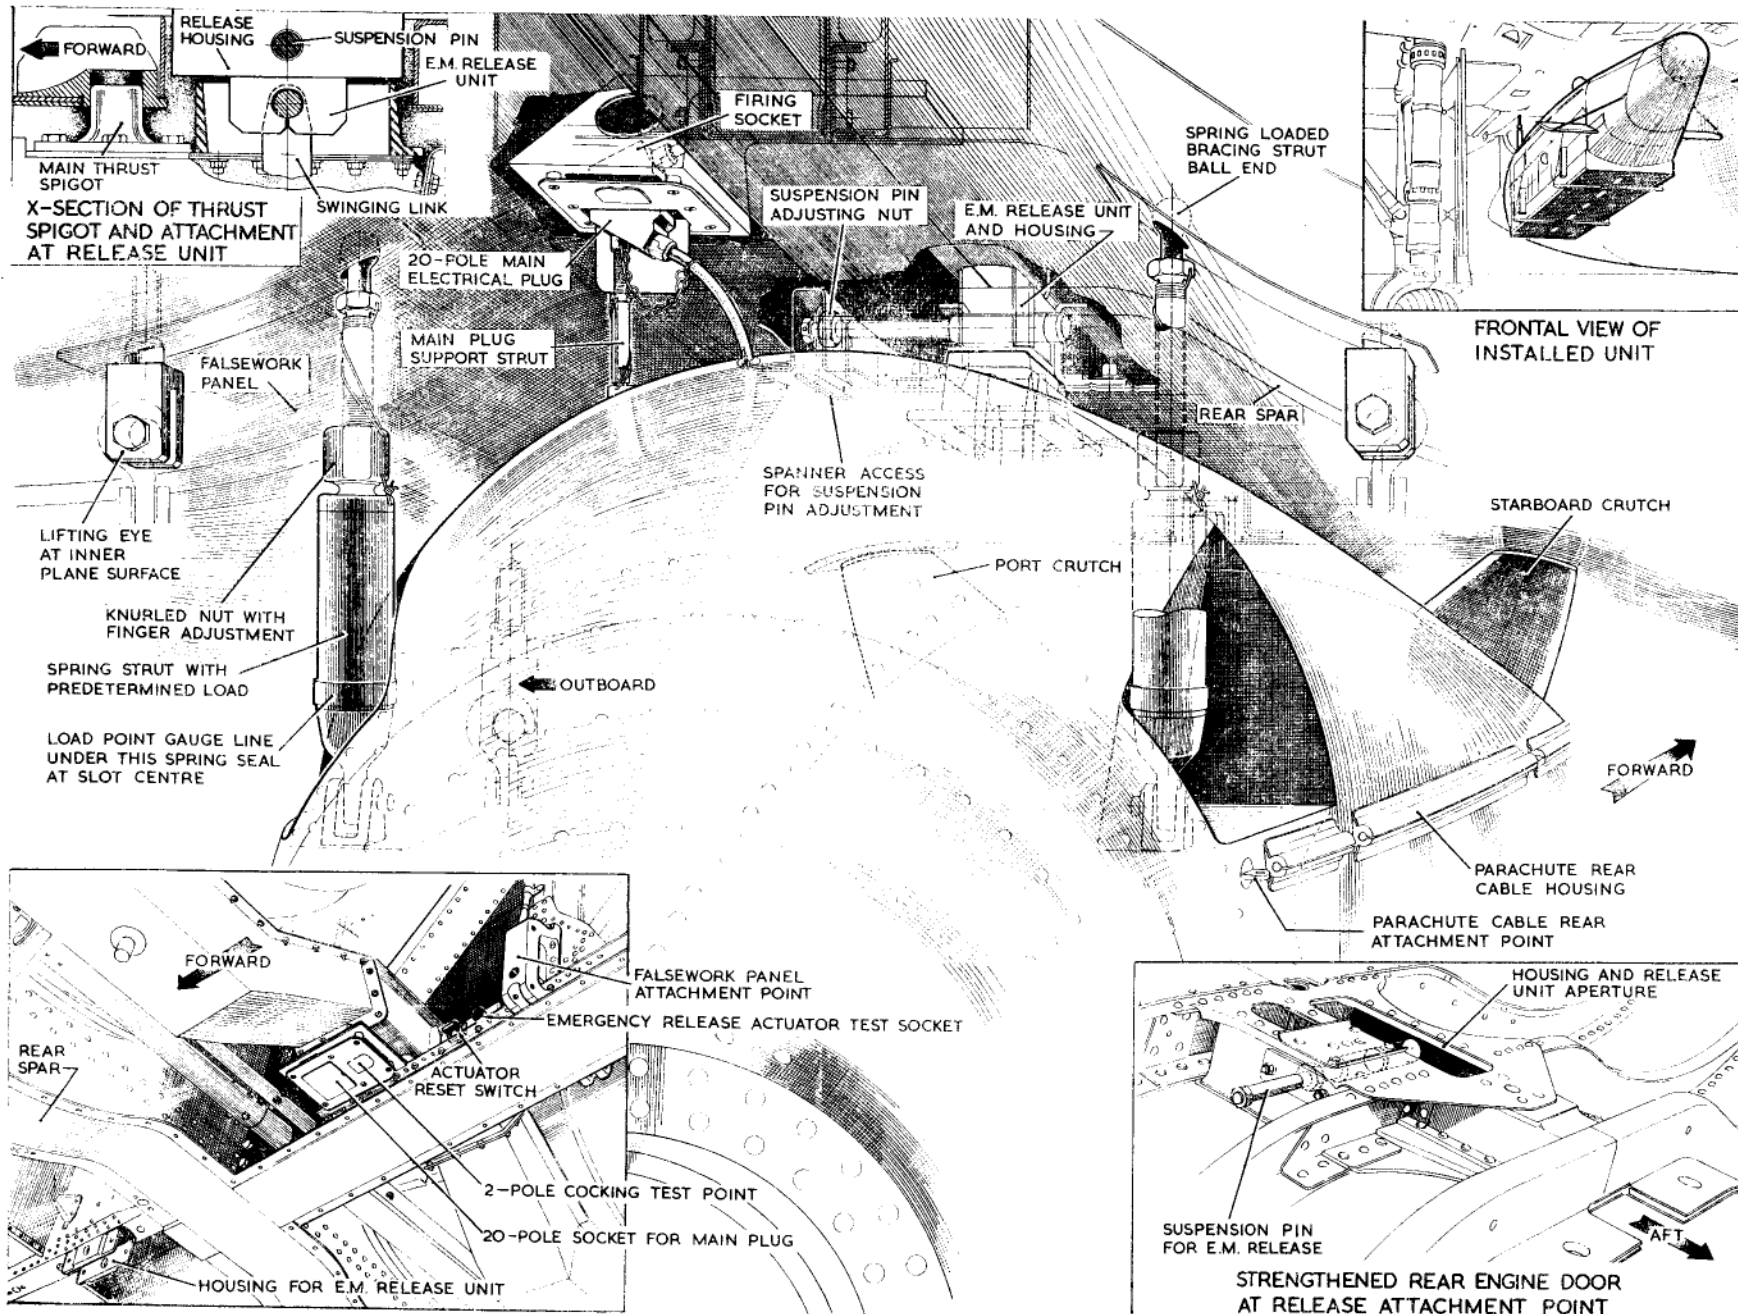

Fig. 4. Unit installation detail (port)
- (1) Ensure that the aircraft is standing on level ground, and that the rear engine door and removable falsework under-panel are fitted securely.
- (2) Remove the slip cover plate.
- (3) Screw the four lifting eyes, Ref. No. 26SR/95428, into the threaded sockets in the inner-plane undersurface (*fig. 4*).
- (4) Move the unit on its transporter into position under the inner plane, with stabilizer fins forward and the unit swinging link directly under the E.M. release unit. Chock the transporter trolley.
- (5) Check that the slip is uncocked, i.e., jaws open, using the test box, Ref. No. 5G/560, plugged into the test socket and
(7) Connect the hoist cables to the cradle lifting shackles and tension the cables without applying lift. Remove the pins securing the cradle to the transporter trolley.
(8) Connect the cocking test box to its test point (*fig. 4*).
(9) Operating all four hoists simultaneously under instructions of a controller, raise the unit and cradle evenly in the nose-up attitude until it is near to the inner plane surface.
(10) Check that the side and main thrust spigots are aligned with the inner plane apertures, and the swinging link with the E.M. release unit.
(11) Continue hoisting, ensuring that the spigots enter their apertures and the
cockpit and operation controller is essential. To remove the unit (the aircraft must be on reasonably level ground) proceed as follows, reference being made to fig. 4 and 5:—